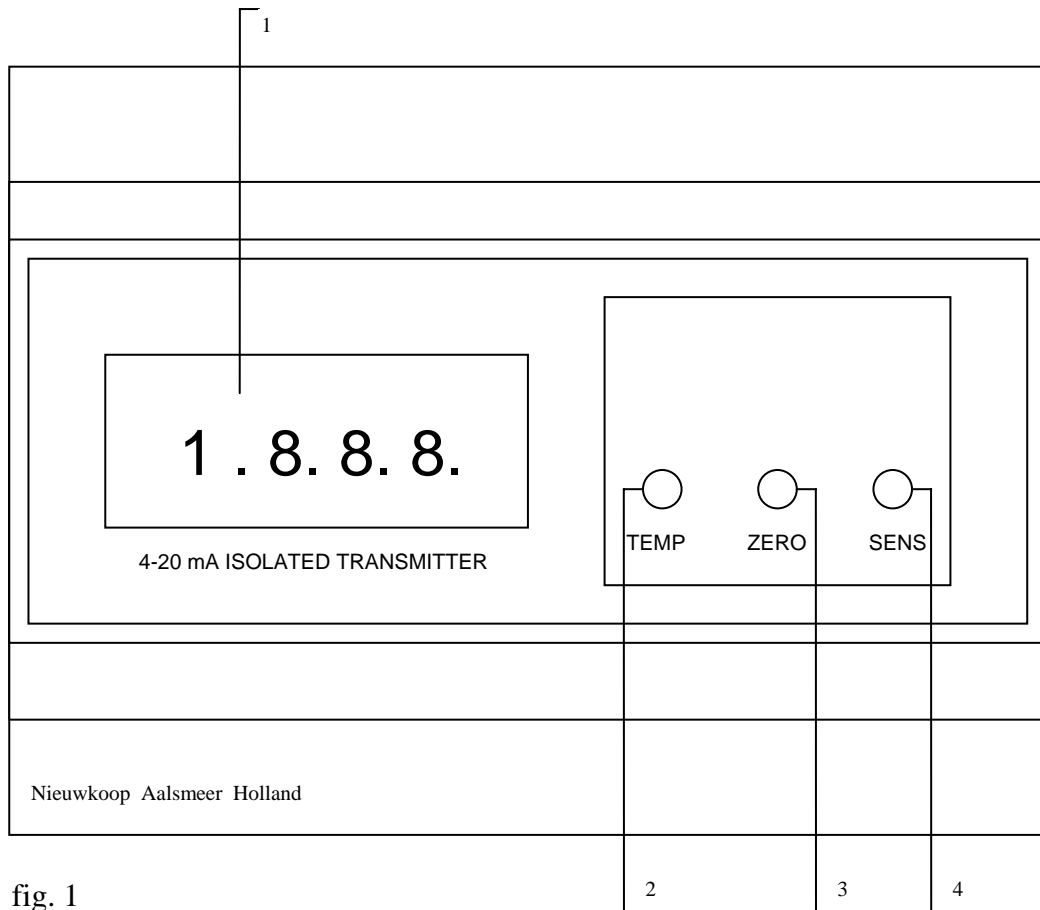
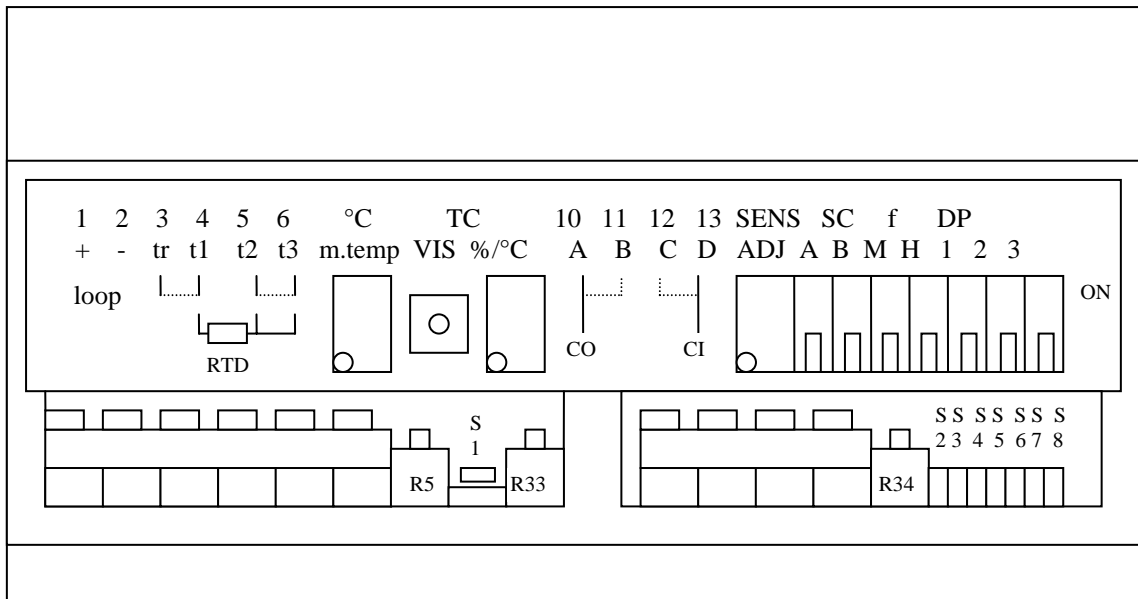

fig. 1
fig. 2
### 8.2 Electrical calibration (fig. 2, page 13)
- adjust "zero" and "slope" with the trimmers located on the front panel (fig. 1, page 12).
- push the key pad "2" on the front panel (fig. 1) and adjust the trimmer "R5" marked "T MAN" (fig.2) to indicate the desired temperature value on the display.